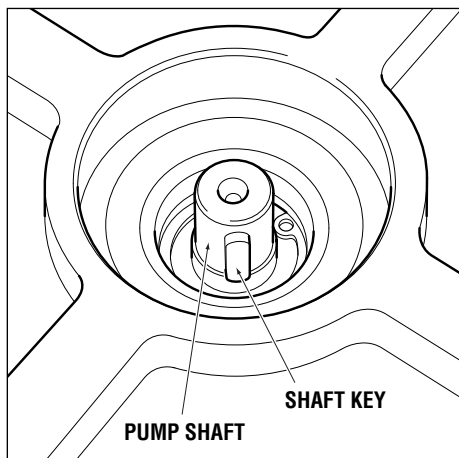

Figure B1. Shaft Key location.
3. Confirm that the shaft key is properly seated (see figure B1) then install replacement motor onto shaft ensuring that the key engages.